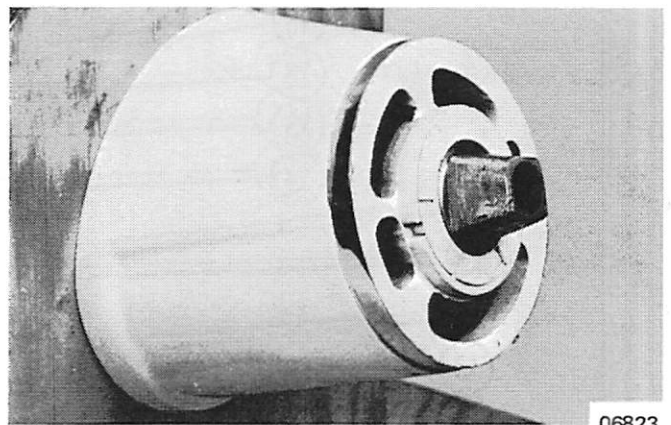

Figure 4. Steering Wheel Shaft Installed - 20° and 90°
1. Slide steering wheel shaft in position in steering wheel post. (Figures 4 and 5)
1. Slide steering wheel shaft into position in steering wheel post. (Figure 4 and 5)